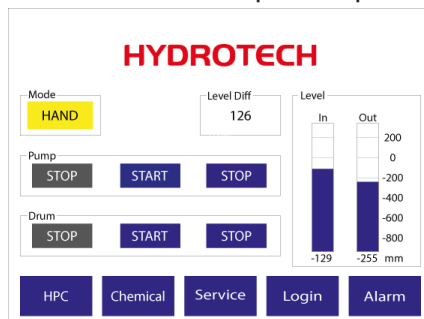

Figure 6.24 Main menu on electrical cabinet operator panel.
2. Select “Service” on the operator panel, see Figure 6.24.